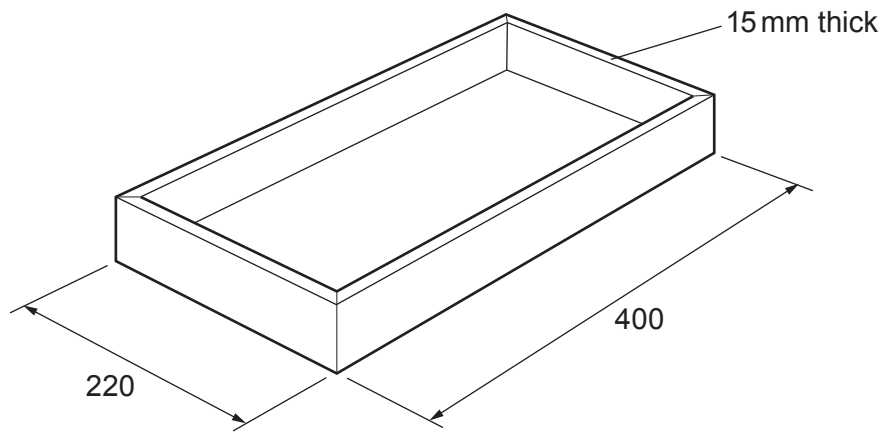

Fig. 9.1
- 9 Fig. 9.1 shows a box made from softwood.